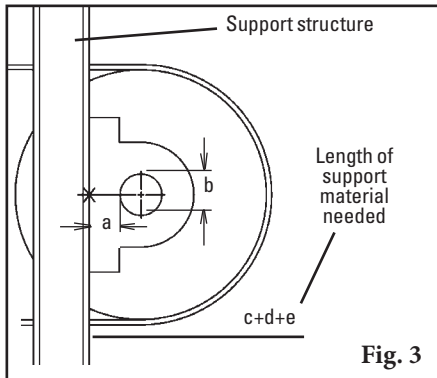

Fig. 3
5. **Cut chute opening.** Using the adjusted intersecting mark ("+") established in Step 4, lay out and cut the required opening 5" x 6" (125x150mm) on the chute (Fig. 3). If access hole is required, see Step 7.
- a.) Measure from the back of the pulley shaft to the support structure (Fig. 3).
- 8c. Install an adjusting arm onto pole end.** Rotate the tensioner around the pole until the optimum mounting position is located. The J bolt mount can be located in any position 360° around the pole. The only requirement is that the J bolt and spring remain perpendicular to the adjusting arm (Fig. 3). **NOTE:** adjusting arm can be located any place along the end of the pole to align with J bolt mount.